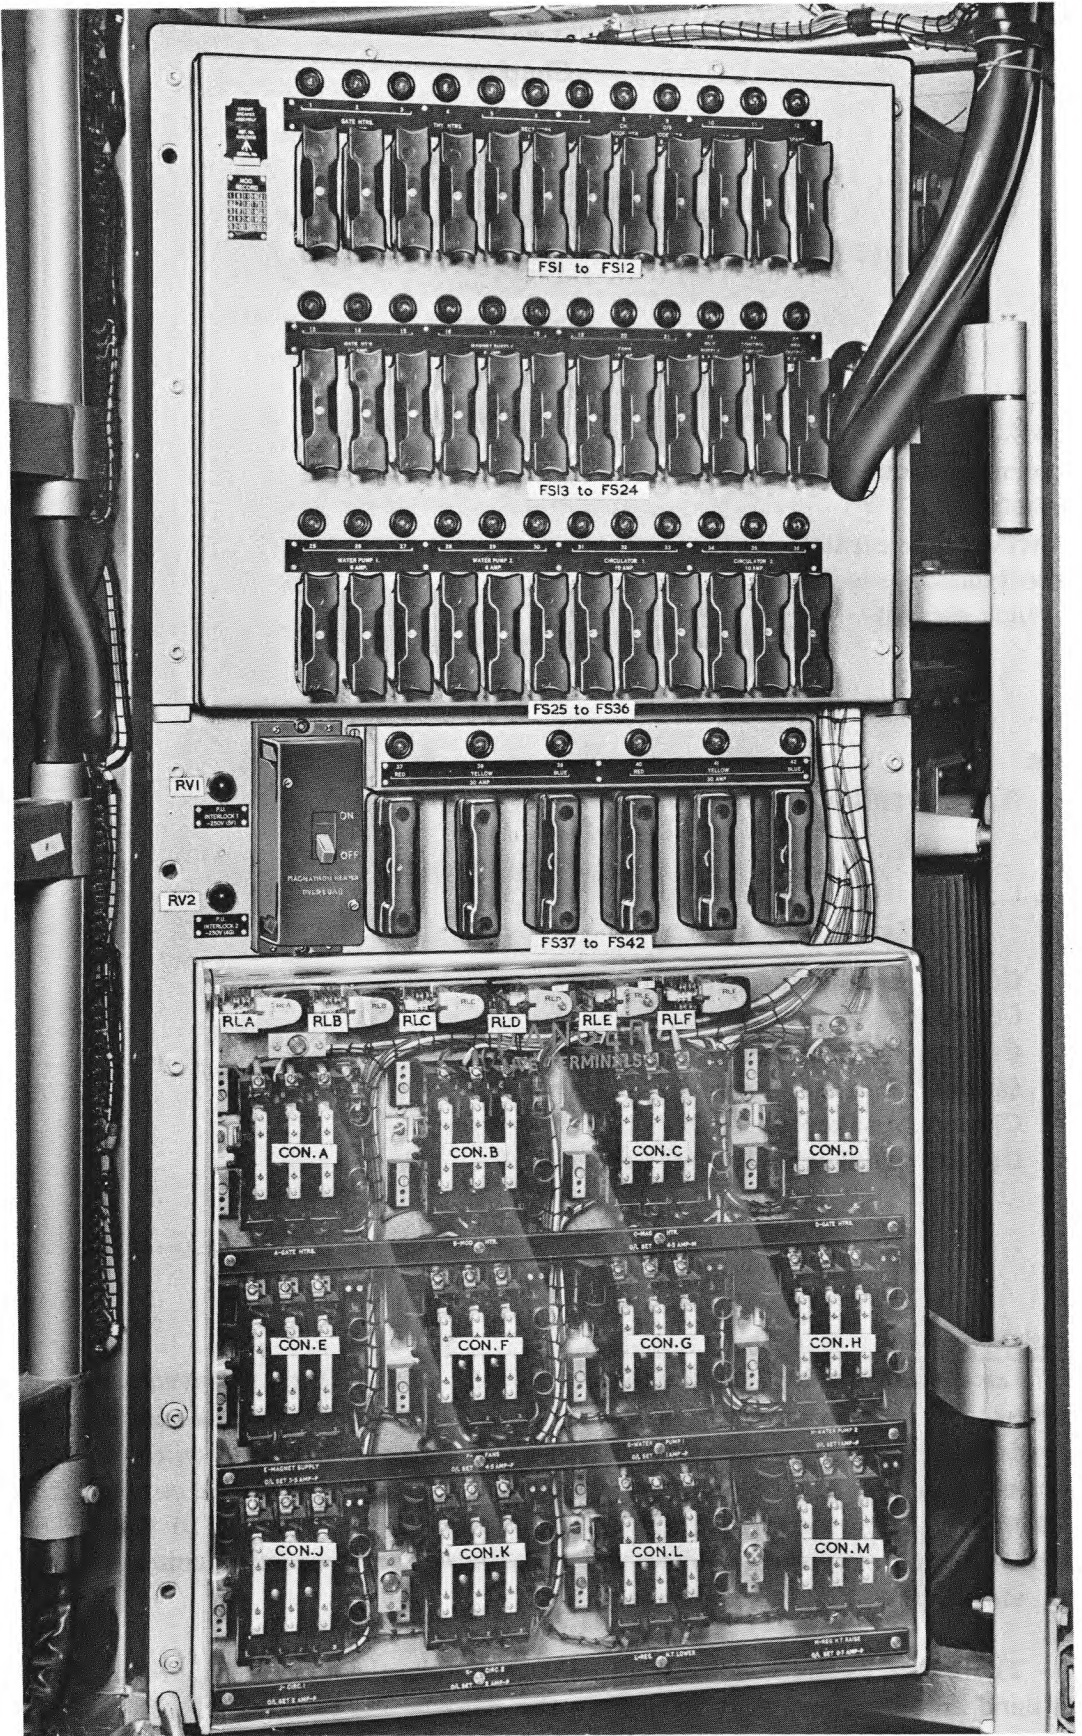
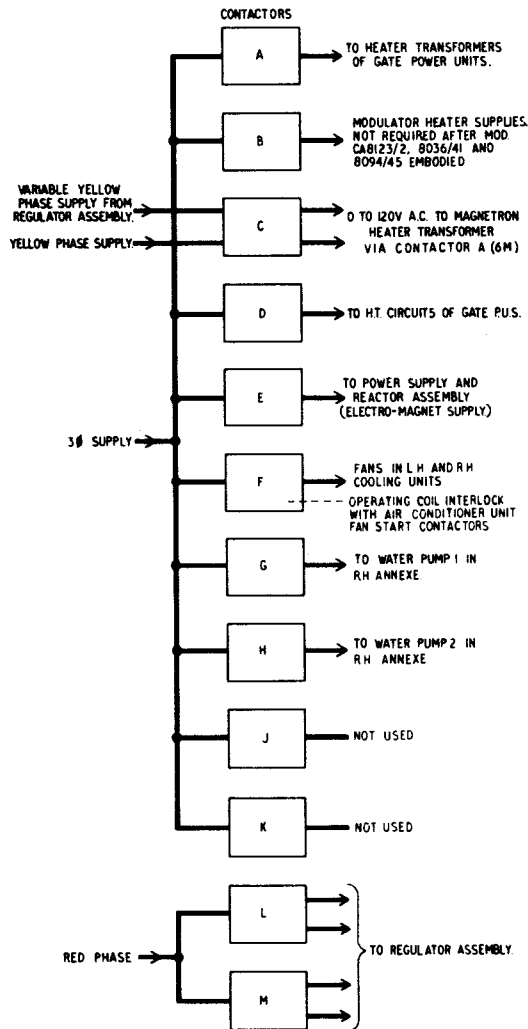

Fig. 1. Circuit breaker assembly: front
Fig.3 Circuit breaker assembly: schematic
1. Located in the left-hand cabinet, this assembly (fig. 1) controls the switching, distribution, and fusing of the a. c. supplies to the various units and components in the radar Type 84 transmitter/receiver. Contactors, mounted on the front of the assembly, control a. c. supplies (fig. 3) and are operated in the correct time sequence by 240V a. c. supplies, which are controlled by control panel M15 (Chap. 2). Each line of the a. c. supplies is fused and neon indicator lamps are connected across each fuse, and light to indicate a fuse failure.